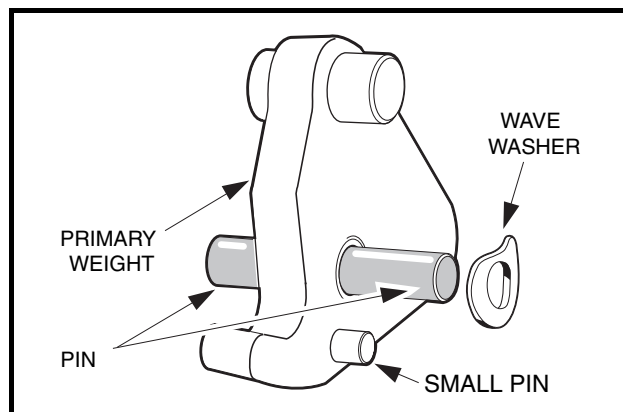

Figure 17-10 Install Pin and Washer
- 5.3. Before removing, note the orientations of the wave washer and of the primary and secondary weights to one another (**Figures 17-10 and 17-11, Page 17-8**). Remove the plastic washers, weights and wave washer from the pin. Retain all parts.
7. Install the primary weights on the mounting pins (**Figure 17-10, Page 17-8**).
8. Install a wave washer on each mounting pin. Make sure that the concave side of the washer faces the side of the primary weight with the small guide pin protruding from it (**Figure 17-10, Page 17-8**).